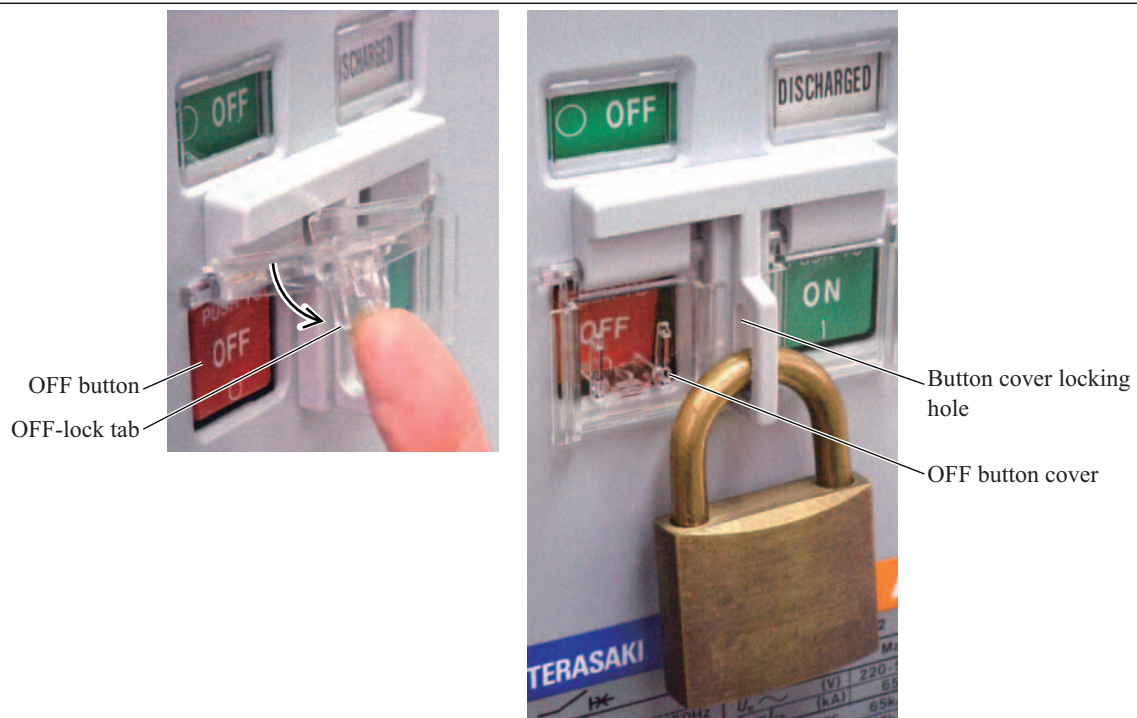

Fig. 30 Locking the OFF button
- 1) Open the OFF button cover shown in Fig. 30.
- 3) Lock the button cover using a padlock with $\phi 6$ shackle (up to 3 padlocks can be used) as shown in Fig. 30. The OFF button is locked depressed, which disables the ON button.